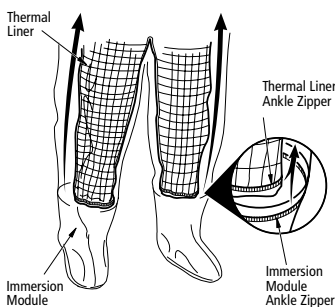

FIGURE 4
- d) Pull both legs out together, turning them inside out to expose the zippers (see fig. 4).